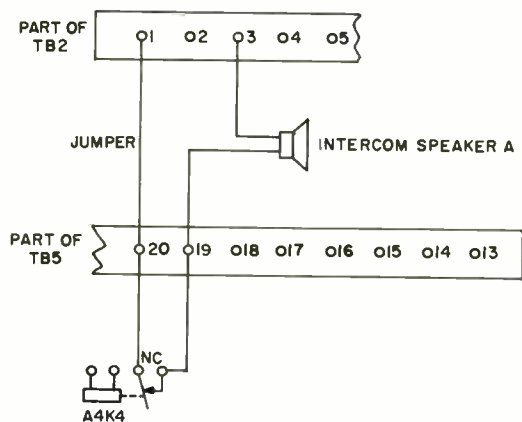

Figure 2-5. Intercom Speaker Interlocks, Simplified Schematics
- c. Refer to figure 2-5. Connect intercom speakers and jumpers as indicated in table 2-1. If interlocking is not desired, intercom speakers may be connected directly to TB2. Connect a 4-ohm, 1-watt resistor across unused intercom speaker terminals.